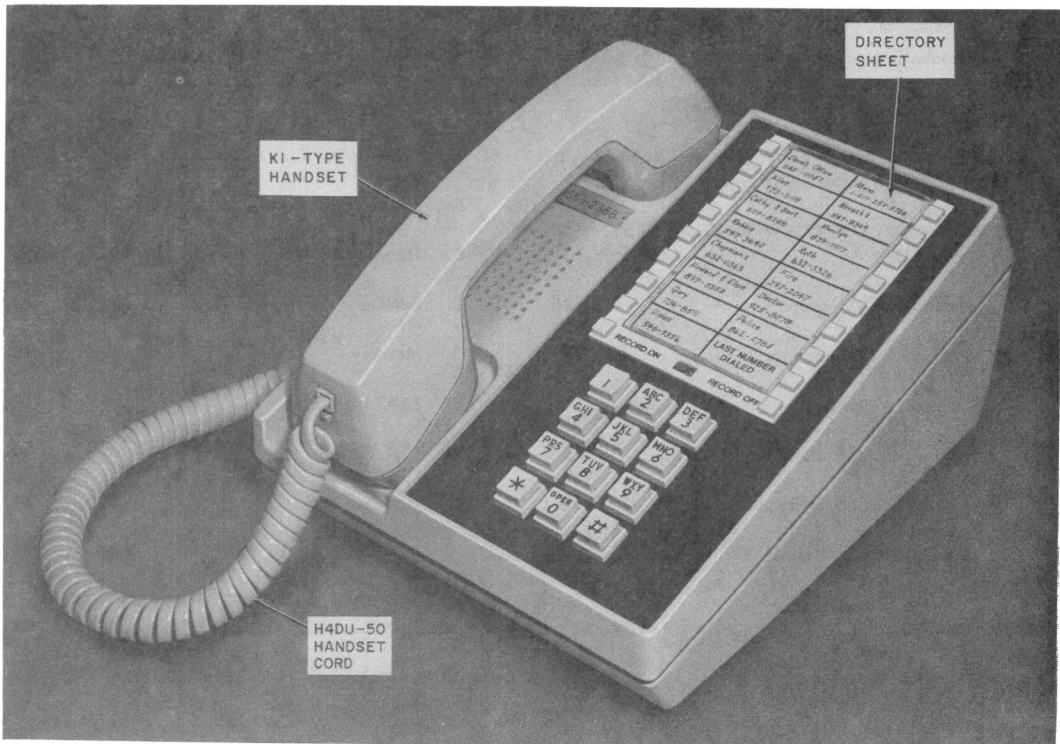

Fig. 1—2960A01M Telephone Set
1.01 This section contains information on the 2960A01M telephone set. This set is shipped from the factory as a desk set (Fig. 1) and can easily be converted to a wall set with no additional parts required.
- Revise Fig. 1, 6, 15, 16, 17, 18, and 20